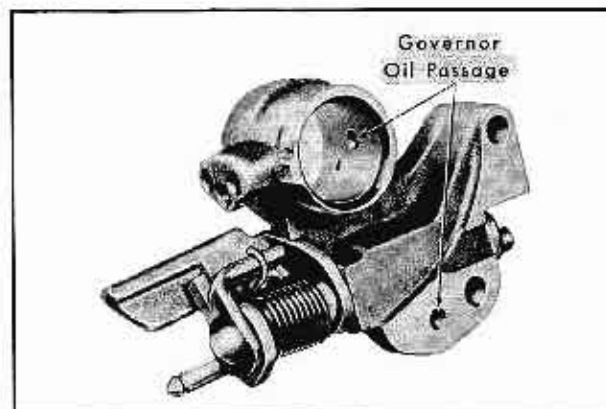

Fig. 14-78 Location of Governor Feed Passages
8. Check governor feed passage by inserting tag wire. Fig. 14-78.